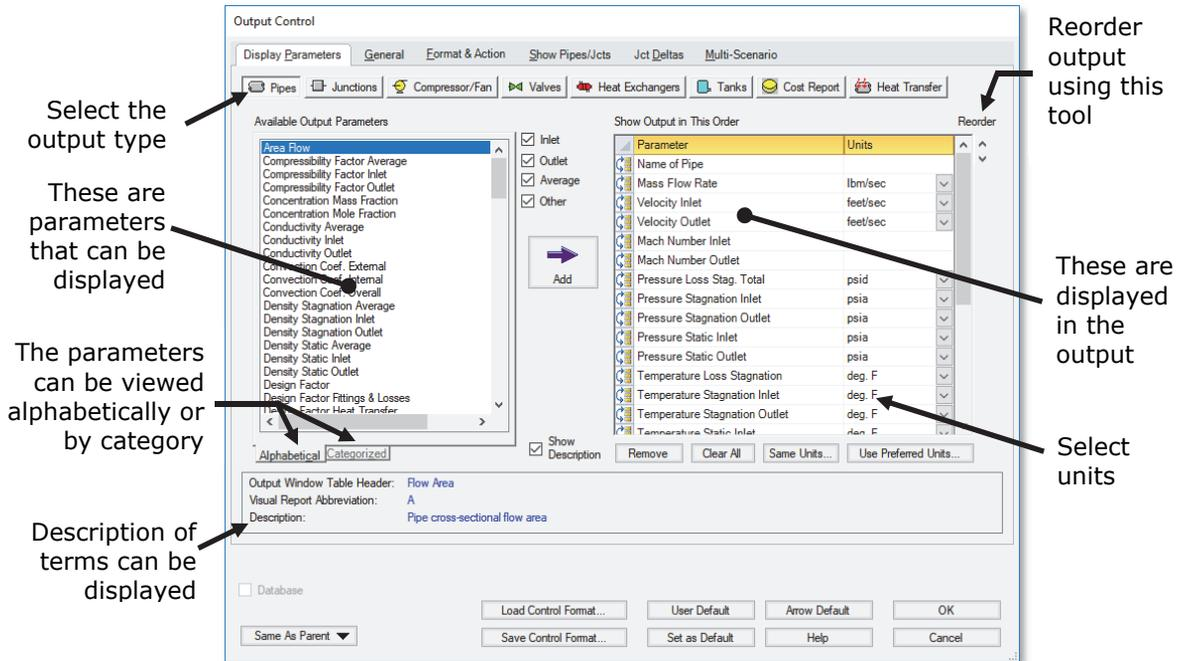

Figure 2.17 The Output Control window lets you customize the output
The Output Control window (Figure 2.17) allows you to select the specific output parameters you want in your output. You also can choose the units for the output. If you do not change any of the Output Control settings, default Output Control parameters and a default title are assigned.
- **Select Output Control from the Tools menu** or the Main Toolbar to open the Output Control window (Figure 2.17). On the Display Parameters tab, select the Pipes button. The list of selected pipe output parameters will be displayed on the right hand side. If you selected the default AFT Arrow Output Control, the pipe results in the Pipes table will show mass flow rate in the second column with units of lbm/sec.
- **Select Output Control from the Tools menu one more time.** Select the Display Parameters tab, and select the Pipes button. The Reorder scroll bar on the far right allows you to reorder the sequence of parameters that will be displayed in the output. You can also click on the reorder symbol on the left side of each row to manually drag-and-drop the rows to change the parameter order (see Figure 2.17).